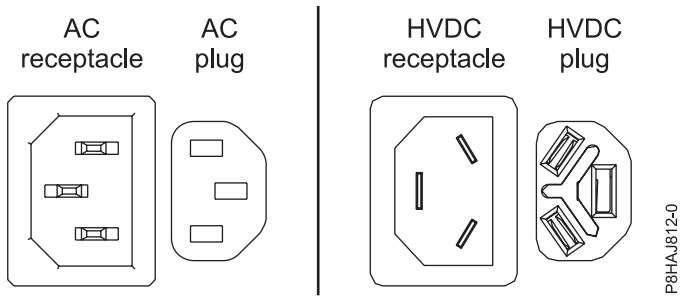
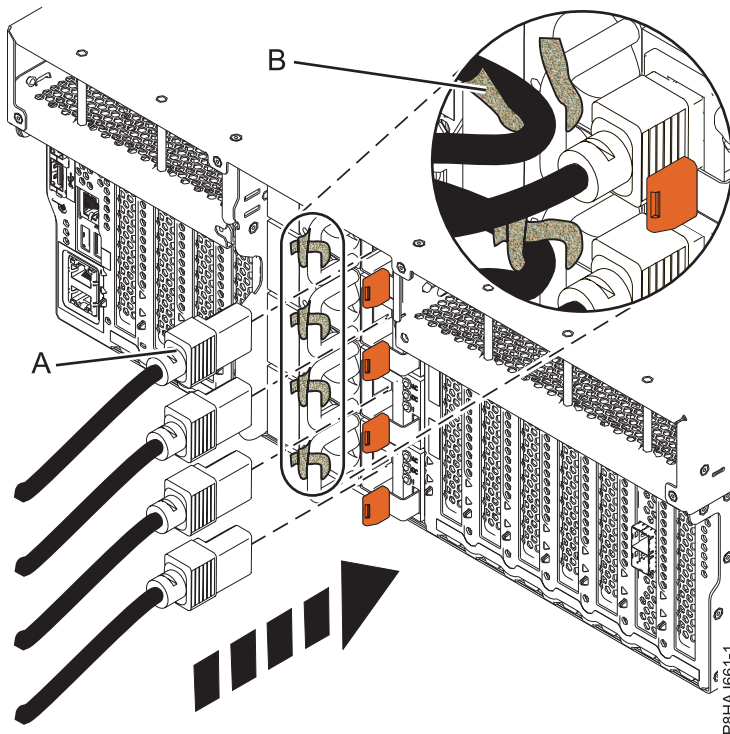
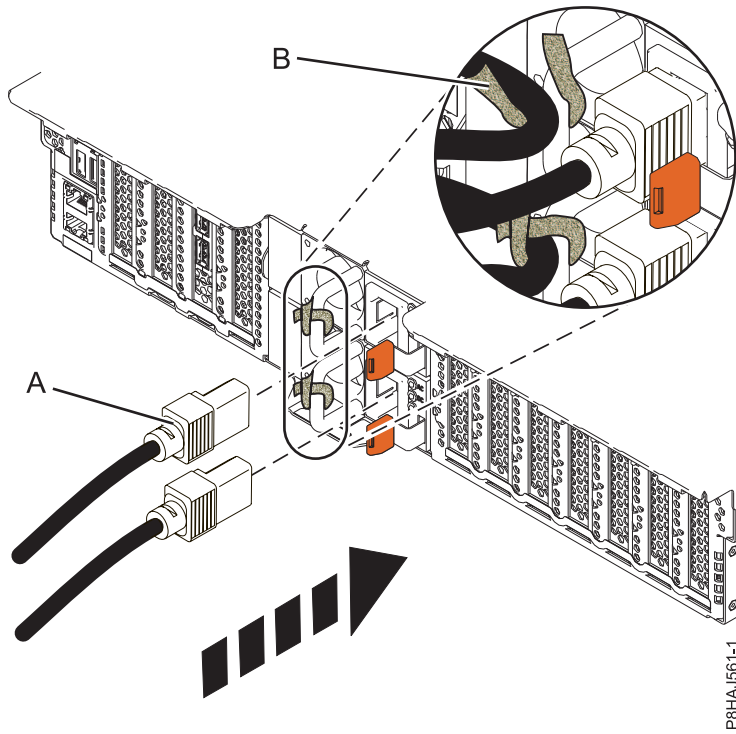
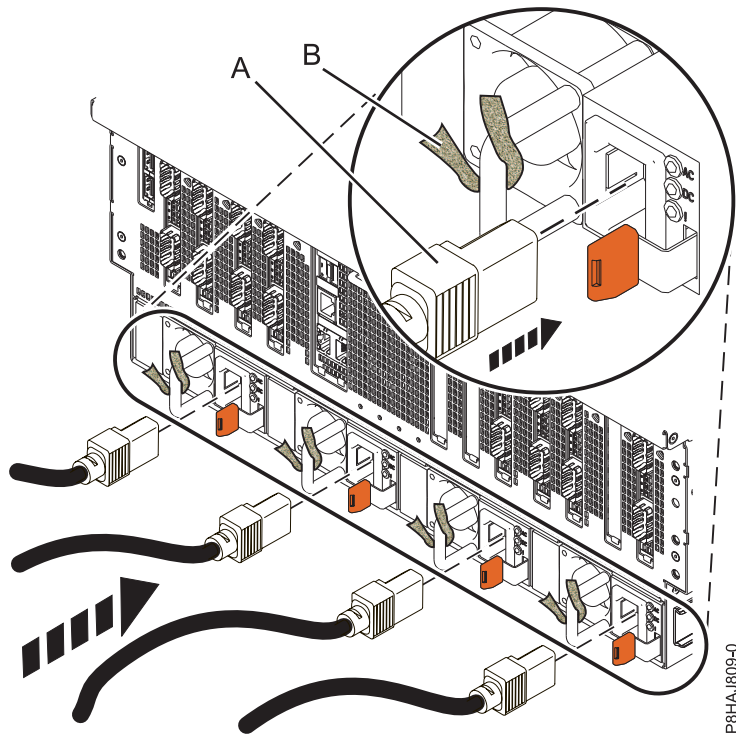

Figure 37. AC and HVDC connectors
Figure 38. Connecting the power cords to an 8247-42L, 8286-41A, or 8286-42A system
Figure 39. Connecting the power cords to a 8247-21L, 8247-22L, or 8284-22A system
Figure 40. Connecting the power cords to an 8408-E8E system
2. Reconnect the power cords **(A)** to the system unit. See Figure 38, Figure 39 on page 52, or Figure 40 on page 52 depending on the type of your system. Figure 37 shows the supported alternate current (AC) and high voltage direct current (HVDC) connectors.